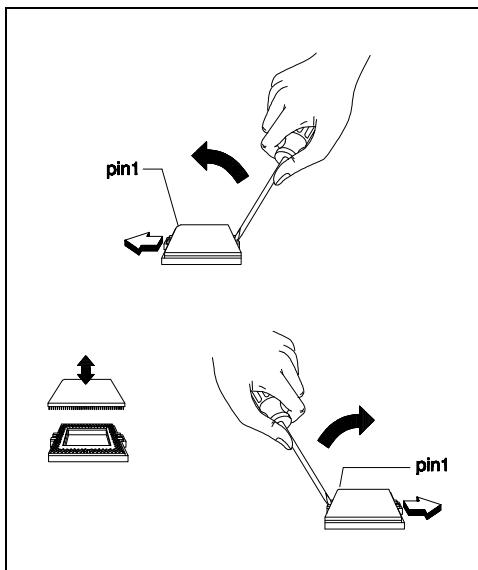

Figure 6-10 *Removing/Replacing the CPU Chip*
The CPU chip is installed in a Zero Insertion Force type socket to facilitate removal and replacement. To remove the CPU, refer to Figure 6-10 and use the following procedure:
2. Refer to Figure 6-10. Insert a flat-blade screwdriver into the opening at the left end of the socket labeled OPEN and push toward the other end of the socket.